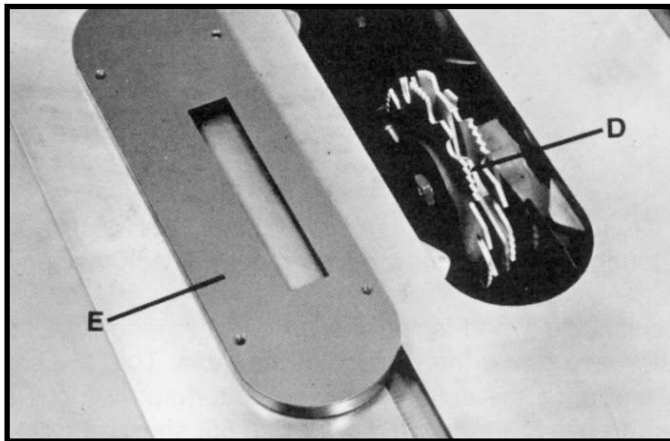

Fig. 140
The dado head set (D) Fig. 140, is assembled to the saw arbor as shown. **IMPORTANT:** The blade guard and splitter assembly cannot be used when dadoing and must be removed or swung to the rear of the saw as explained previously in this manual. Auxiliary jigs, fixtures, push sticks and feather boards should also be used. Also, the accessory dado head table insert (E) Fig. 140, must be used in place of the standard table insert.